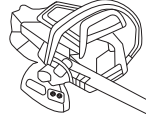

Fig. 33
2. Slightly loosen the bar-retaining nuts (Fig. 33).
3. Remove the bar-retaining nuts with the supplied multi-purpose tool (Fig. 33)
1. Fit the guide bar flush against the mounting surface so that the two guide bar bolts are in the guide bar slot (Fig. 33). Push the guide bar back as far as it will go against the drive sprocket.